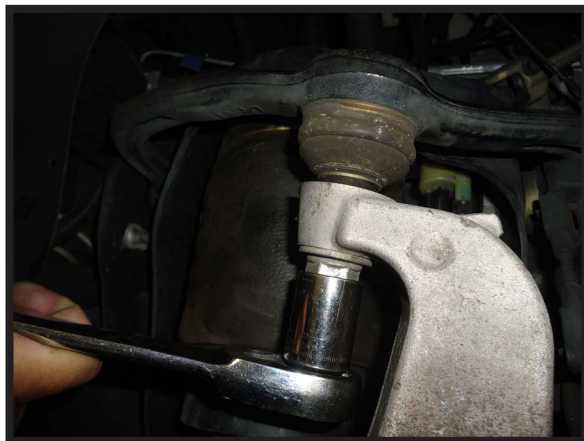

FIGURE 10-4
6. LOOSEN AND REMOVE THE BALL JOINT NUT TO SEPARATE THE BALL JOINT FROM THE SPINDLE ASSEMBLY. (FIGURE 10-4)